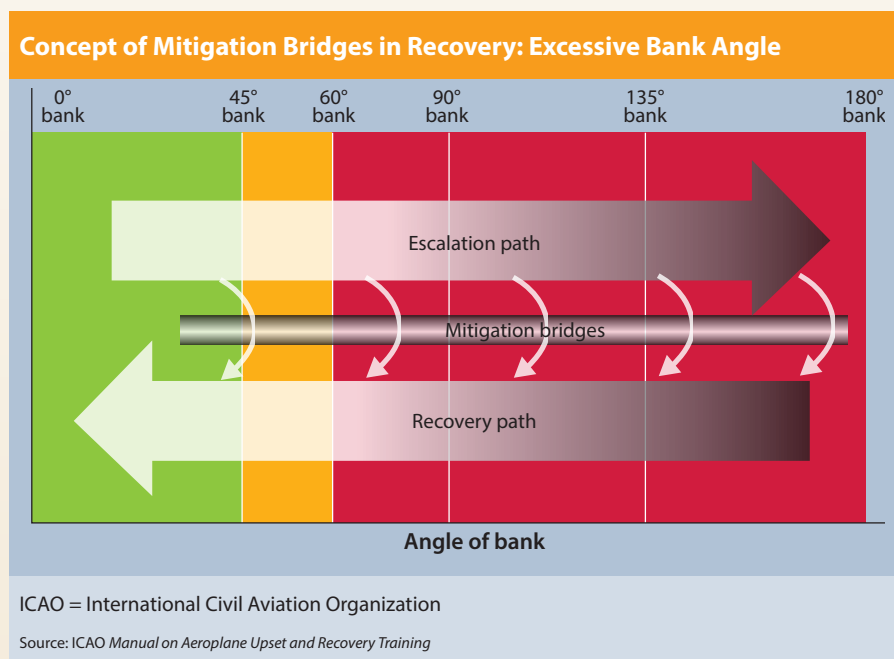

Figure 2
- “Instilling the notion that intervention [action] must be taken regardless of the upset bank angle, rather than at some artificially set point on the escalation path.” *Mitigation bridges* are specific techniques appropriate to particular situations, the paper says. They help establish a mindset in which a pilot does not wait [for] a particular critical condition before beginning a recovery procedure, but instead reacts as soon as possible (Figure 2, p. 21).